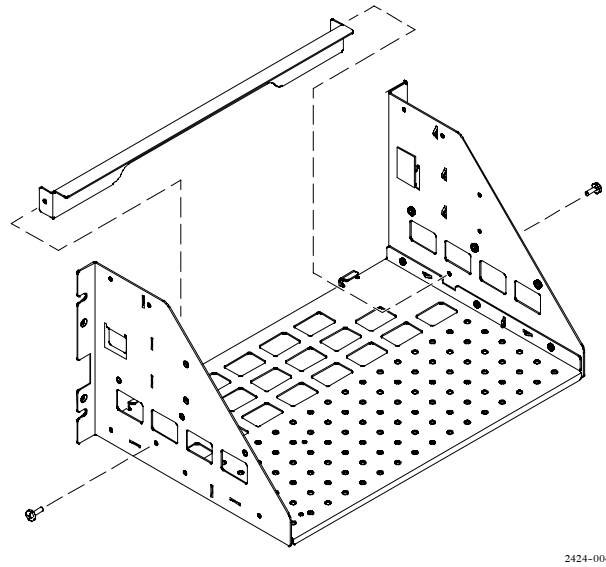

Figure 5: Installing the rear feet bracket
2. Install the rear feet bracket onto the bottom bracket using two of the 6-32 x 0.312 inch pan head Pozidriv screws, tightened to 8 in-lb. See Figure 5.